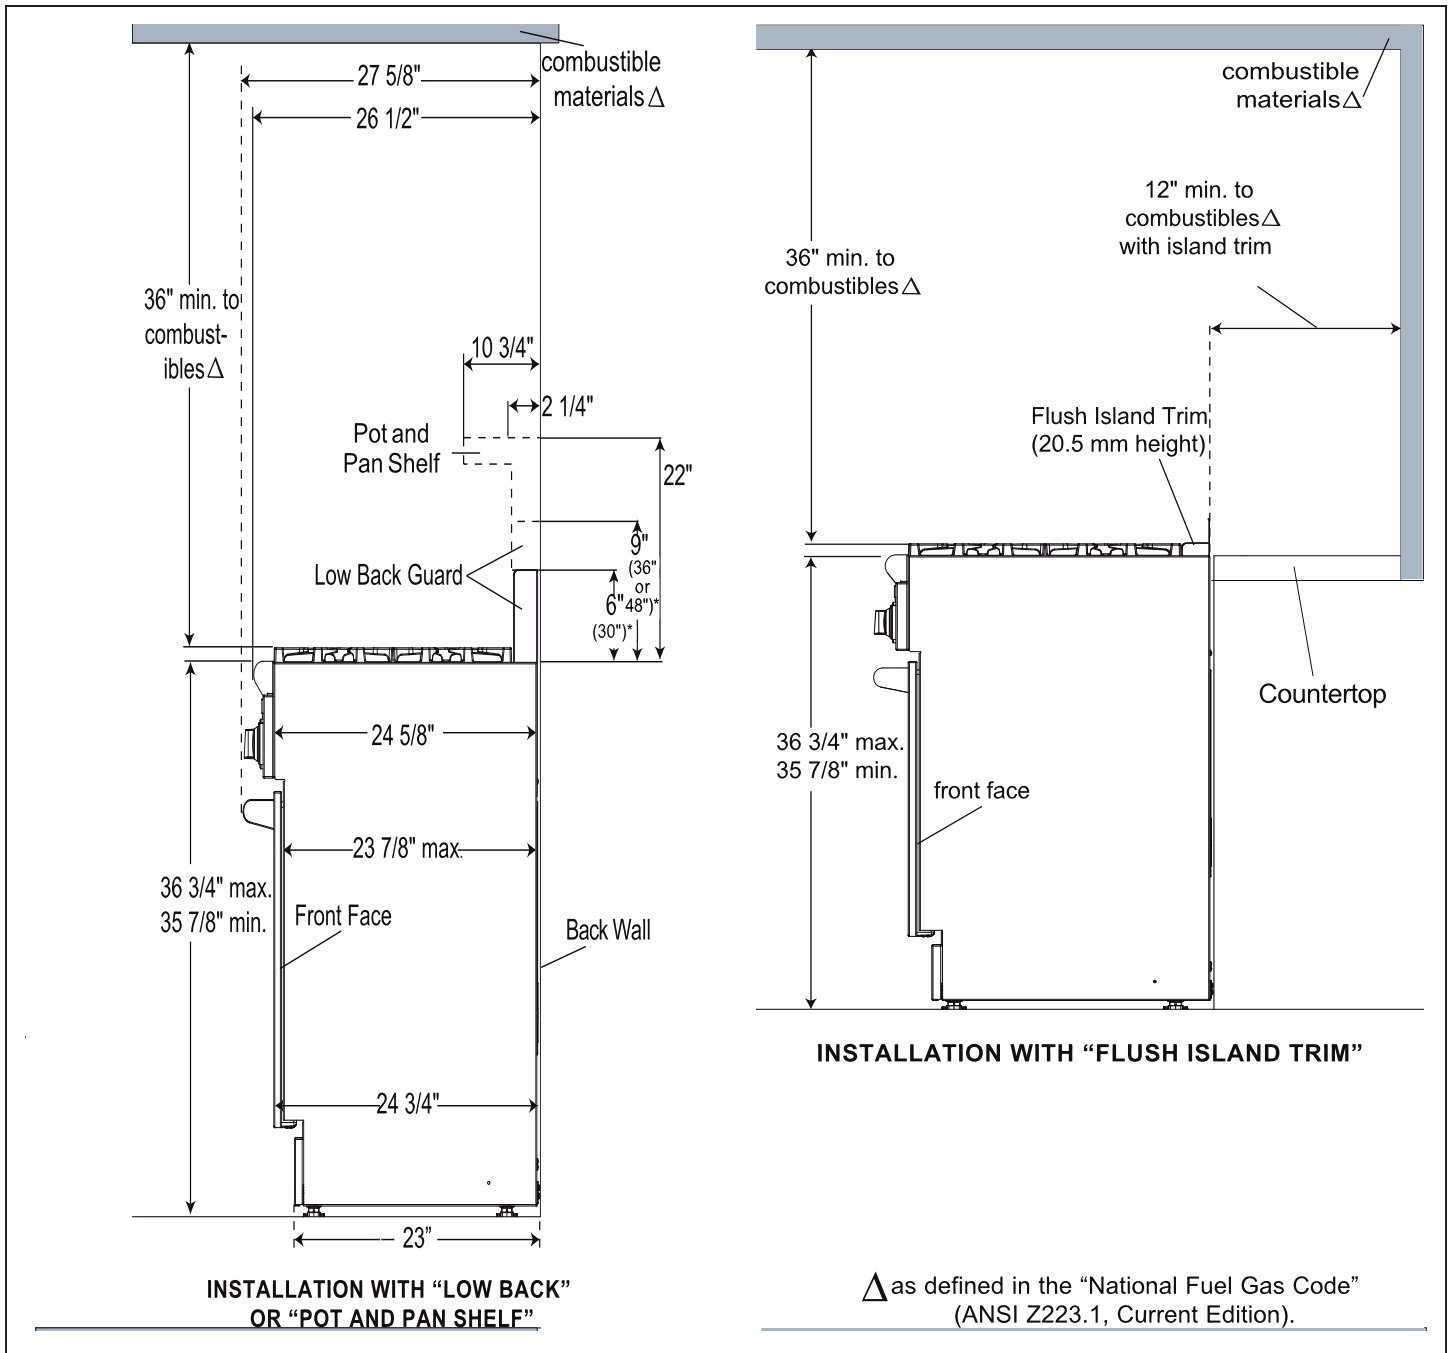

Figure 2: Side View
2. These ranges may be recessed into the cabinets beyond the edge of the front face of the oven (See Figure 2).
5. When there is less than a 12" horizontal clearance between combustible material Δ and the back edge of the range above the cooking surface, a Thermador Low Back or Pot and Pan Shelf must be installed. (See Figure 2). When clearance to combustible material Δ is over 12", a Thermador Flush Island Trim may be used. Figure 2 indicates the space required for each type of backguard.
- The range has an approximate shipping weight as shown in Chart A. The literature packet with manuals, cooking grates, griddle plate, burner caps, front kick panel and oven racks must be removed to facilitate handling. Removing the door(s) is also recommended (See "Step 8: Door Removal and Reinstallation" on page 14). This will reduce the weight as shown in Chart A. See Figure 2 on page 6. **Do not remove the griddle element and tray assembly.**